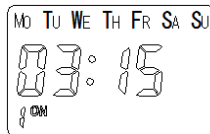

Figure 13
4.2.4.2 1ON (first switch-on) time setting: press “◀”, “△” and “▽” respectively to set 1ON time, see Figure 13, The top of the screen represents the day will automatically work, Such as the need for Monday to Friday, the screen lit Mo-Fr, if every day the same time requires all lit Mo-Su.